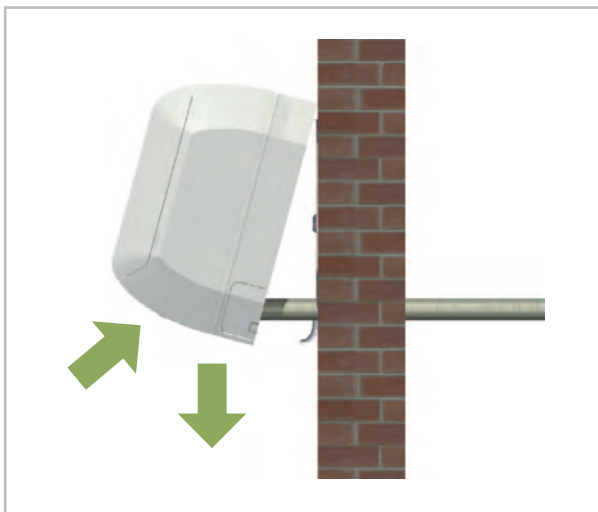

Fig. 32: Horizontal positioning
5. ➤ Check again that the unit is level. (Fig. 32)